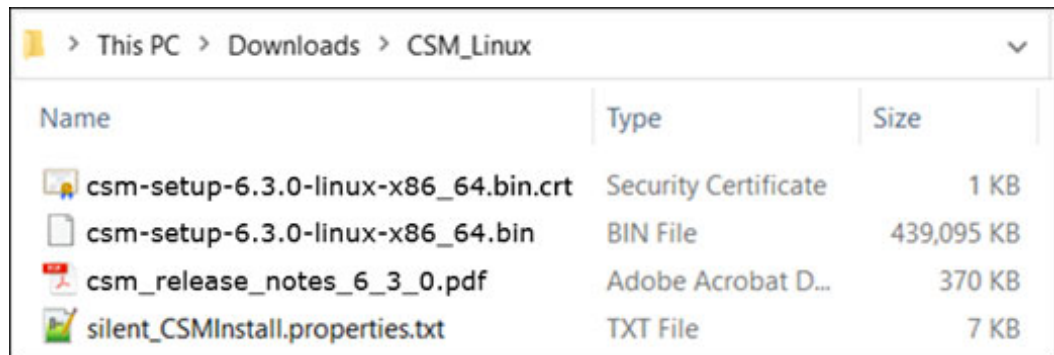

Figure 6-10 Downloaded IBM Copy Services Manager files
- When the download process is complete, note the folder path where the files were stored. In our example, the files are stored in the folder C:\Downloads\CSM_Linux, as shown in Figure 6-10.